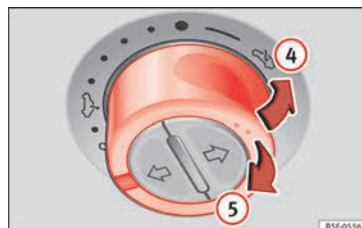

Fig. 12
- To tilt open: Push the switch to position » Fig. 12 ④. For an intermediate position, hold down the switch until you reach the desired position.
- Lowering: Pull the switch to position » Fig. 12 ⑤. For an intermediate position, hold down the switch until you reach the desired position.